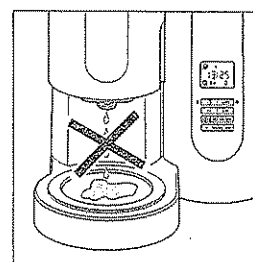

Figure 15
10. Removing the jug (Figure 15)